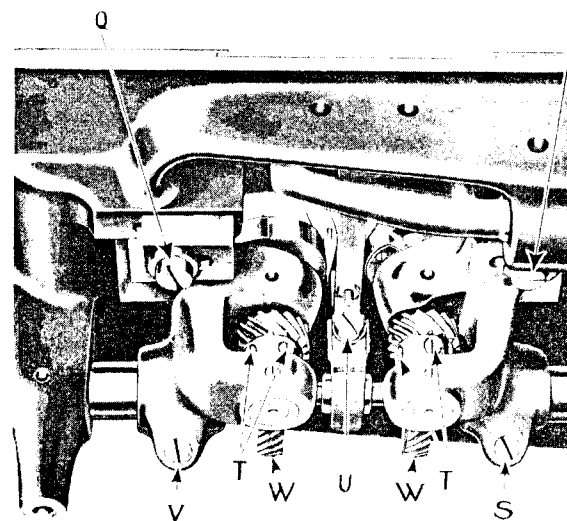

Fig. 17. Adjustment of Hook Saddles
In case the sewing hooks are not correctly timed, turn balance wheel over toward you until needle bar has descended to its lowest point and has risen until the lower timing mark across the needle bar is just visible at the end of the needle bar frame. Then loosen the four screws (T, Fig. 17) in the hook shaft gears and turn the sewing hooks until the point of each hook is at the center of its needle, after which securely tighten the four screws (T), leaving just enough end play to the shaft for lubricating purposes.
Turn the balance wheel over toward you until the points of the sewing hooks are at the center of the needles. Loosen the four screws (Q, R, S and V, Fig. 17) underneath the bed of the machine and move the hook saddles to the right or left, as may be required, until the points of hooks are as close to the needles as possible without striking them, then securely tighten the four screws (Q, R, S and V).
Remove the bobbin cases as instructed above, then take out the four screws (T, Fig. 17) from the hook shaft gears and lift out the sewing hooks.
Remove the throat plate; clean the lint and dust from between the feed points and replace the throat plate; tip the machine back and turn the balance wheel towards you until the feed dog is at its highest position; loosen screw (U, Fig.17) in the feed lifting cam fork and raise or lower the feed dog, as may be required, then retighten the screw (U).